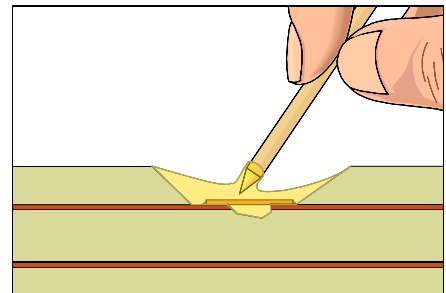

Figure 6: Coat the top and sides of the new circuit with epoxy. Add epoxy until flush with top surface.
15. Coat the top and sides of the replaced circuit with epoxy. The epoxy bonds the new circuit to the base board material and insulates the circuit. Continue adding epoxy up to the top surface of the PC board or to the height of the next internal circuit. (See Figure 6).